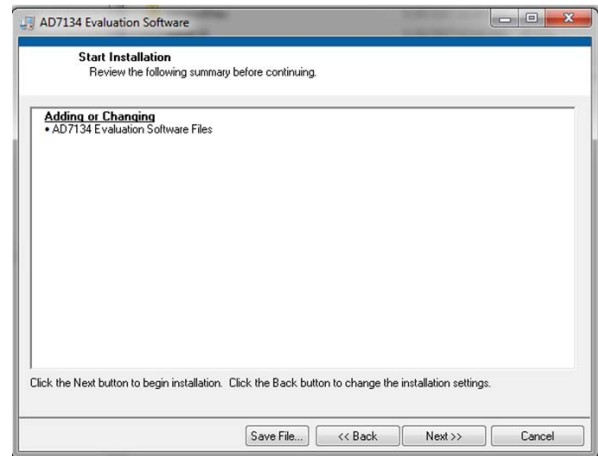

Figure 8. Installation Summary
5. A summary of the installation appears, as shown in Figure 8. Click **Next** to continue.